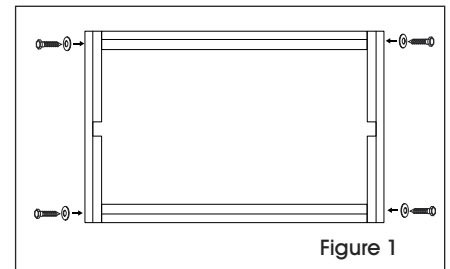

Figure 1
2. Assemble the two tire stop pieces and the two side assembly pieces using two lag screws and two washers. (See Figure 1)
3. Place the grid assembly upright in the rectangle base assembled in Figure 1. Ensure the grid assembly is positioned with the extended part of the end post pointing up. Attach with two lag screws and two washers in each of the places indicated. (See Figure 3)